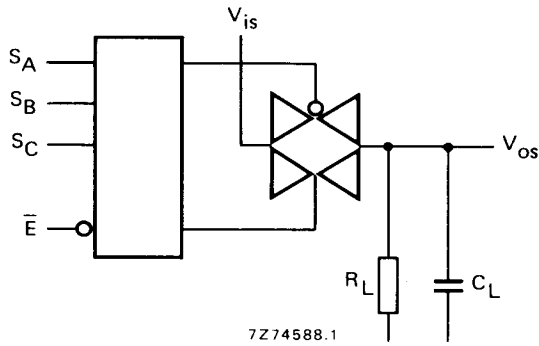

Fig. 8.
- $R_L = 10 \text{ k}\Omega$  to  $V_{EE}$ ;  $C_L = 50 \text{ pF}$  to  $V_{EE}$ ;  $\bar{E} = V_{SS}$ ;  $V_{is} = V_{DD}$  (square-wave); see Fig. 8.
- $R_L = 10 \text{ k}\Omega$ ;  $C_L = 50 \text{ pF}$  to  $V_{EE}$ ;  $\bar{E} = V_{SS}$ ;  $S_n = V_{DD}$  (square-wave);  $V_{is} = V_{DD}$  and  $R_L$  to  $V_{EE}$  for  $t_{PLH}$ ;  $V_{is} = V_{EE}$  and  $R_L$  to  $V_{DD}$  for  $t_{PHL}$ ; see Fig. 8.
- $R_L = 10 \text{ k}\Omega$ ;  $C_L = 50 \text{ pF}$  to  $V_{EE}$ ;  $\bar{E} = V_{DD}$  (square-wave);  $V_{is} = V_{DD}$  and  $R_L$  to  $V_{EE}$  for  $t_{PHZ}$  and  $t_{PZH}$ ;  $V_{is} = V_{EE}$  and  $R_L$  to  $V_{DD}$  for  $t_{PLZ}$  and  $t_{PZL}$ ; see Fig. 8.
- $R_L = 10 \text{ k}\Omega$  to  $V_{EE}$ ;  $C_L = 15 \text{ pF}$  to  $V_{EE}$ ;  $\bar{E}$  or  $S_n = V_{DD}$  (square-wave); crosstalk is  $|V_{os}|$  (peak value); see Fig. 8.